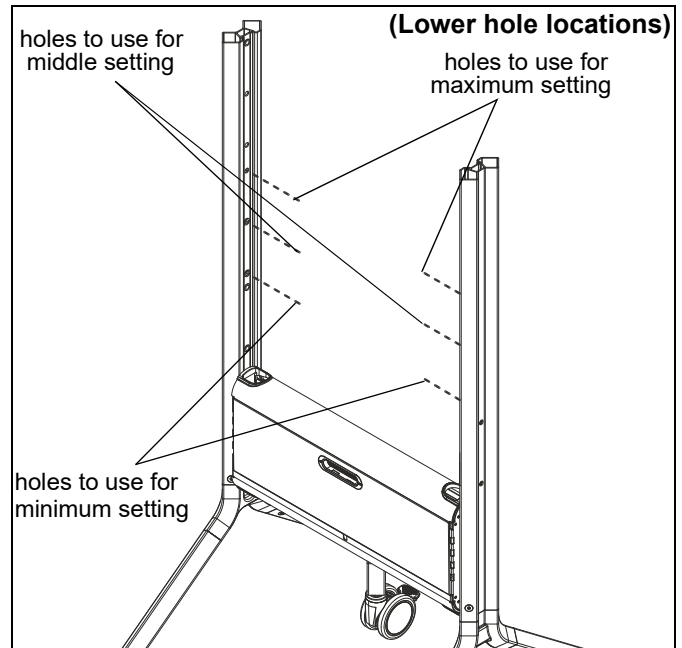
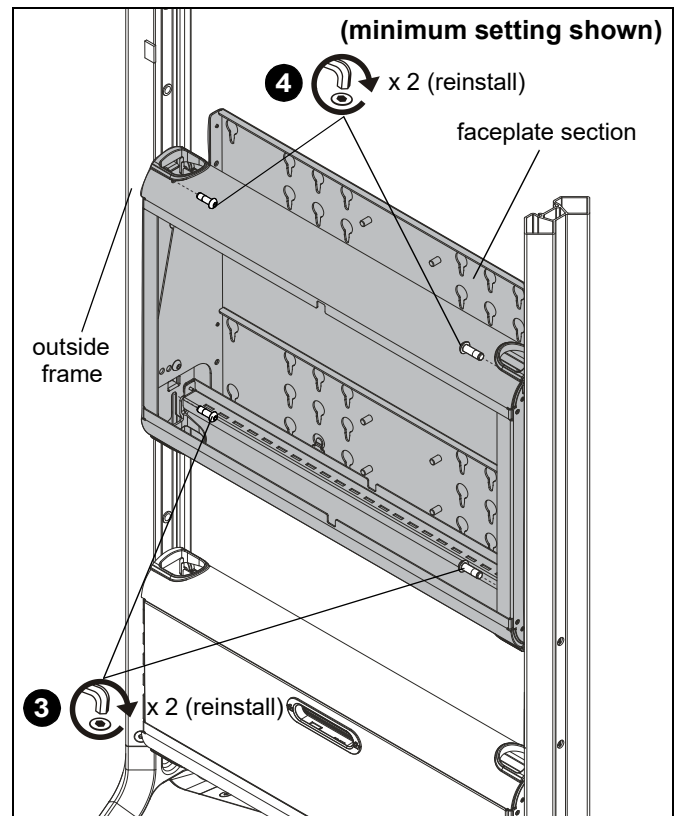

Figure 19
Figure 20
3. Relocate lower button head screws to appropriate holes on frame based on desired height. (See Figure 19) and (See Figure 20)
4. Reinstall two button head screws removed in Step 1 into corresponding upper screw holes. (See Figure 20)